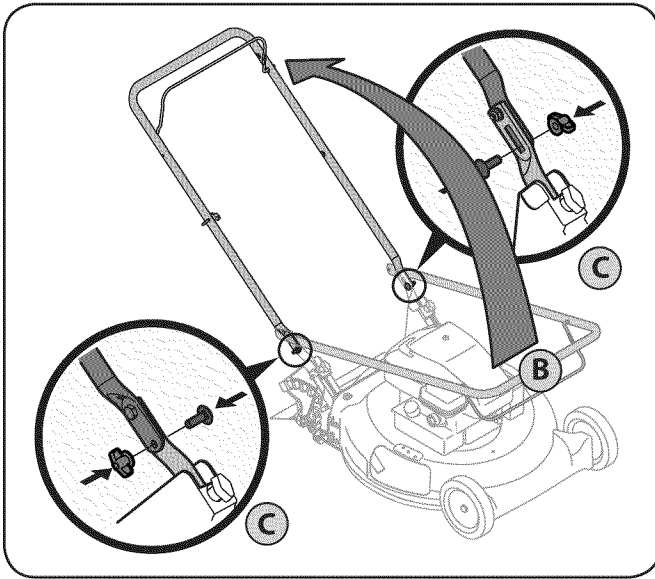

Figure 3-2
- b. While stabilizing mower so it doesn't move, pivot upper handle up as shown in Fig. 3-2. Do not crimp cable while lifting the handle up.
- c. Reattach bolts and wing nuts removed earlier into lower holes of handle as shown in Fig. 3-2 inset.